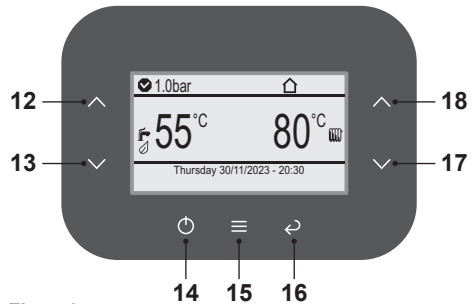
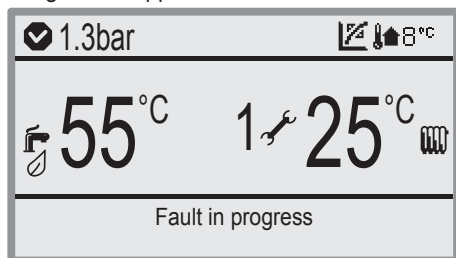
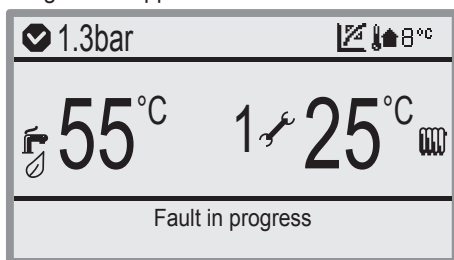

Fig. 7.17
Fig. 7.19
Fig. 7.21
- Press the 14 key for 5 seconds until the boiler temperature and both  and  symbols appear on the display Fig. 7.17.
- Switch off the boiler by pressing the 14 (Fig. 7.17) key for 5 seconds until the  symbol appears on the LCD display (Fig. 7.15).
- Press the 14 key for 5 seconds until both  and  symbols appear on the display Fig. 7.17.
If after four ignition attempts (about four minutes) the boiler does not function and a code adjacent to the  symbol and the message "Fault in progress" at the bottom of the display (Fig. 7.19). Key 14 (Fig. 7.17) flashes to signal the appliance is in lockout.
After four ignition attempts (about four minutes) the boiler does not function and a code adjacent to the  symbol and the message "Fault in progress" at the bottom of the display (Fig. 7.21). Key 14 (Fig. 7.17) flashes to signal the appliance is in lockout.